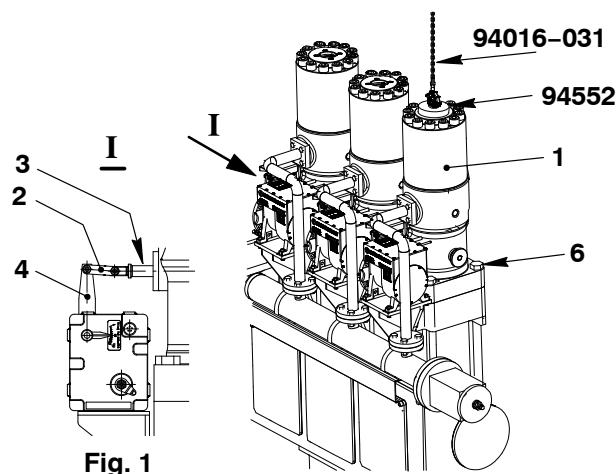

Fig. 1
- 1) Attach the lifting tool 94552 to the pump cover (1, Fig. 1).
- 2) Disconnect the connecting element (2) between toothed rack (3) and the actuator lever (4), refer to the chapter 5583-1 in the Maintenance Manual.
- 4) Remove the screws (6, Fig. 1) of the fuel pump.